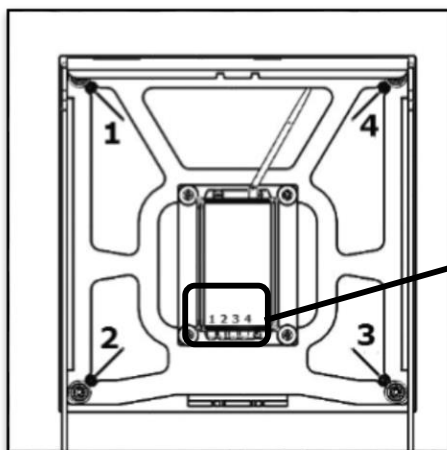

Figure 17
- 2) Velcro target computer on back of target frame, antenna up, as shown in Figure 17
- 10) Screw cable to corresponding connector on target computer (refer to Figure 17)